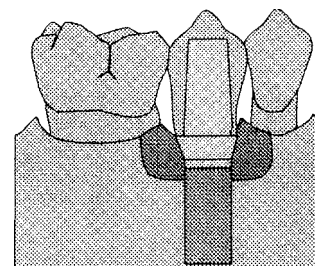

Fig 7
7. The final restoration may then be completed using conventional laboratory techniques (Fig. 7). A screw-access hole is left in the occlusal surface of the completed restoration.